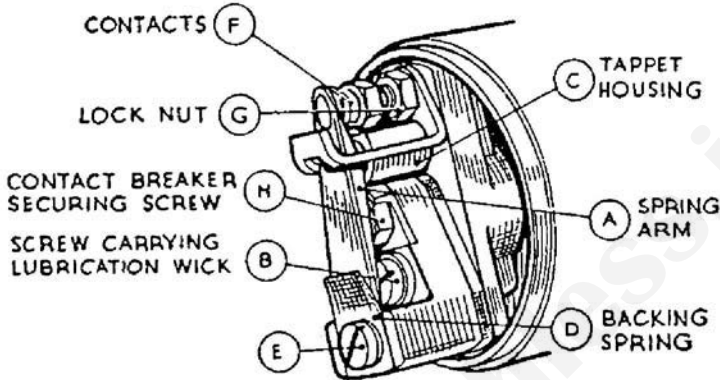

FIG. 38. FACE CAM CONTACT-BREAKER OF LUCAS ROTATING-ARMATURE MAGNETO SHOWN ASSEMBLED
The Contact-breaker (Face-cam Type). The cam and tappet of the face-cam type contact-breaker (Fig. 38) require lubrication approximately every 3,000 miles. To effect such lubrication, remove the complete contact-breaker as described below. First release the spring blade and take off the contact-breaker cover. Now, referring to Figs 38 and 39, remove the screw (E) and the spring washer retaining the spring arm (A) to the body (L) of the contact-breaker, and detach the curved backing spring (D) and the spring arm (A). Next unscrew the screw (B) carrying the lubrication wick, and remove the insulating bush (fibre).
The same contact-breaker is shown assembled in Fig. 38.